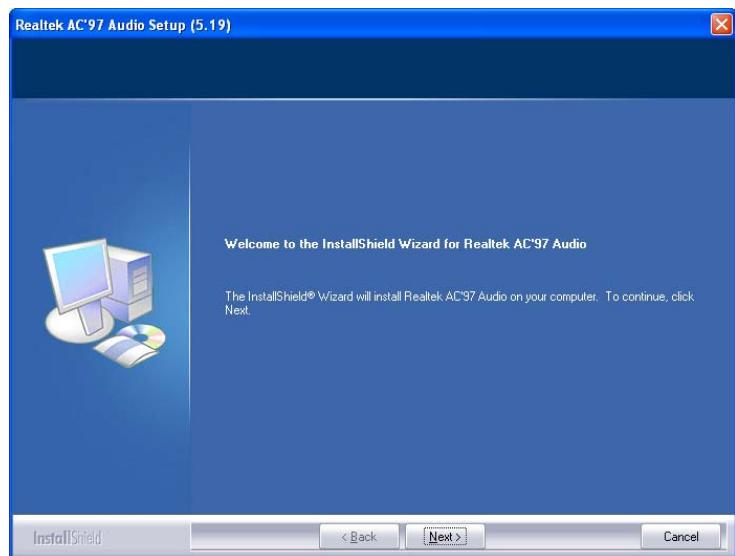

Figure 6-22: AC'97 Driver Installation Welcome Screen
Step 6: The AC'97 Driver Installation screen in Figure 6-22 appears.